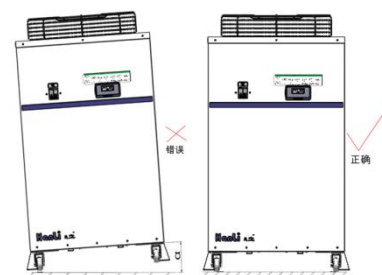

图 3 设备安装形式要求
- It must be installed horizontally and cannot be tilted , as shown in Figure 3. Equipment without casters needs to be fixed with anchor bolts , and equipment with casters must lock the universal wheels.